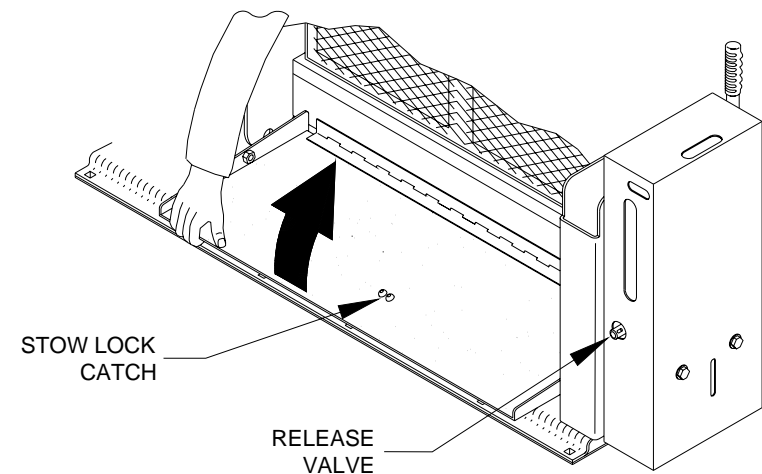

FIGURE 2-12: RAISE BRIDGEPLATE BY HAND
- Refer to **Figure 2-12**. Override the Stow-Lock feature by lifting bridgeplate by hand. This will separate the Stow-Lock catch (fastened to underside of bridgeplate) from Stow-Lock latch (fastened to baseplate). If Stow-Lock is difficult to separate, use manual backup pump to raise platform slightly and remove tension from catch; refer to "Stow Platform" paragraph in this section.